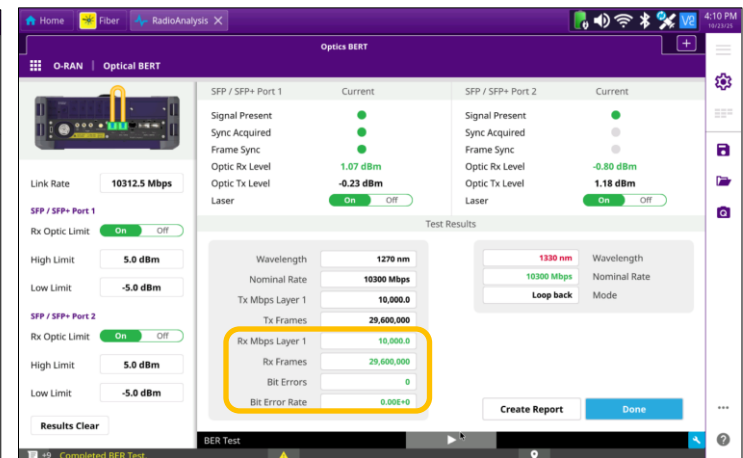

Figure 10: BiDi SFP+ (10G) Results
3. In Figure 10 the wavelength of **1330** is in red. This is just flagging the difference from the wavelength in port 1